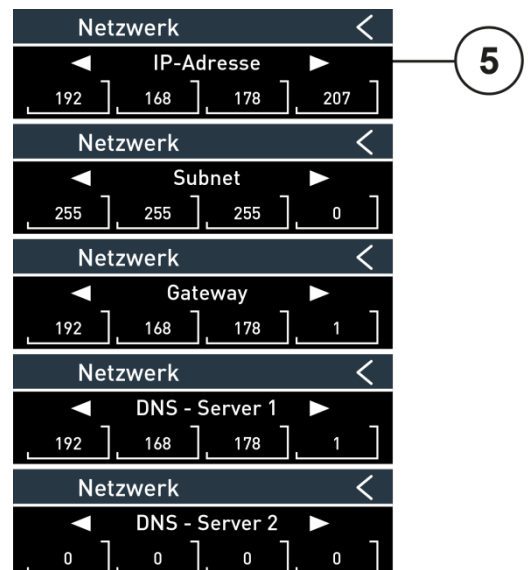

Fig. 18: Changing addresses
- ▶ Tap the *Scroll-Forward-Button* **(5)**, to change the address of the *Subnet*, the *Gateway*, the *DNS server 1* and *DNS server 2* (Fig. 18).